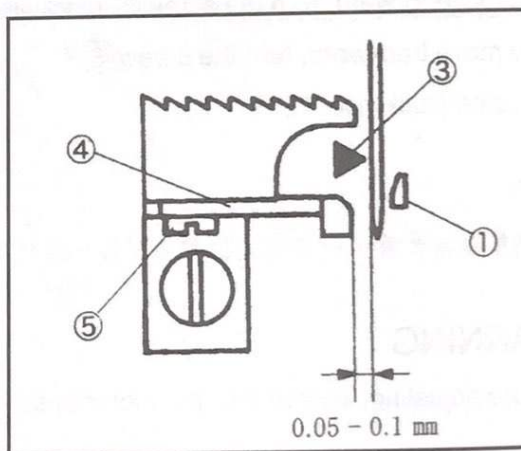

Fig.58
當後針檔④和針最靠近的時候，要有0.05-0.1mm的間隙。由螺絲⑤去調整。(Fig.58)
Make the standard clearance between the needle guard (rear) ④ and the left needle to 0.05-0.1 mm when they meet most closely. Open the looper cover and loosen the screw ⑤ to adjust it. (Fig.58)